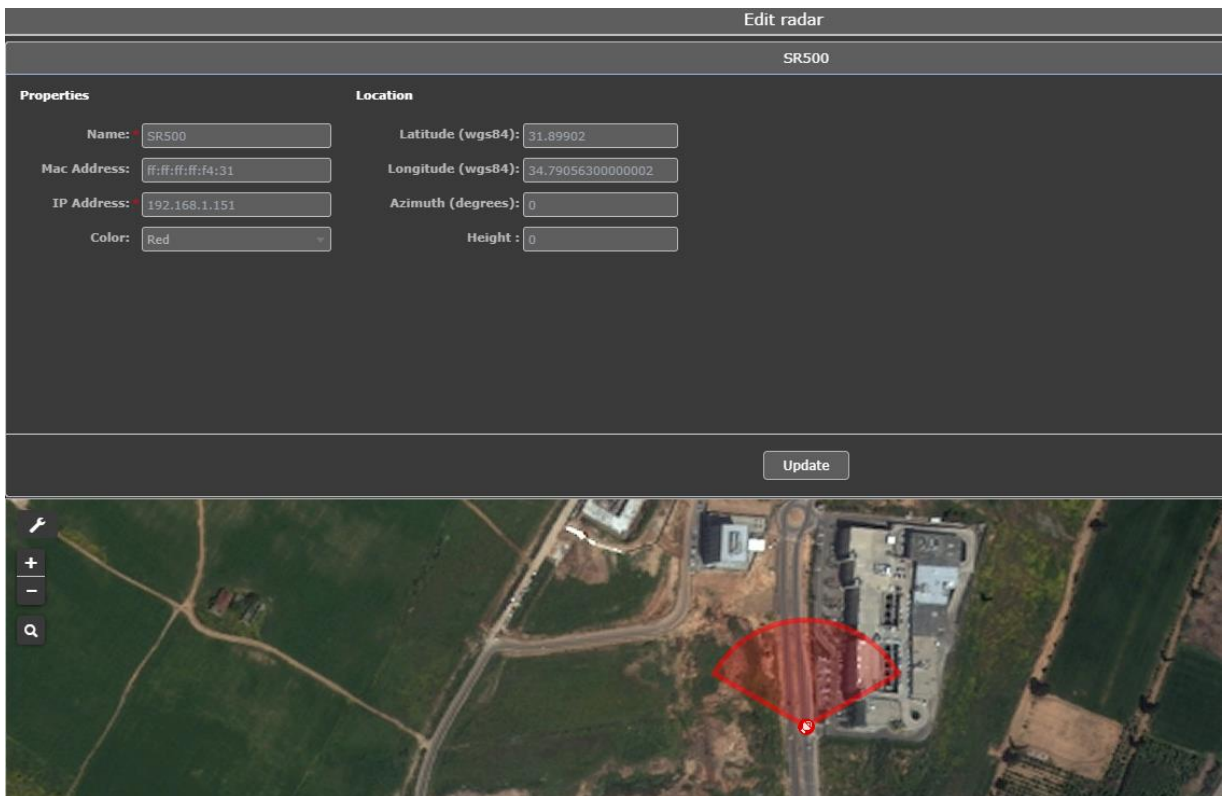

Figure 27: Radar sensor configuration menu
- Radar:  Radars can be assigned a color by using the Radar sensor configuration menu; for details, see the description below Figure 27: Radar sensor configuration menu on page 23. When communication with the radar is down, the icon is colored in gray.